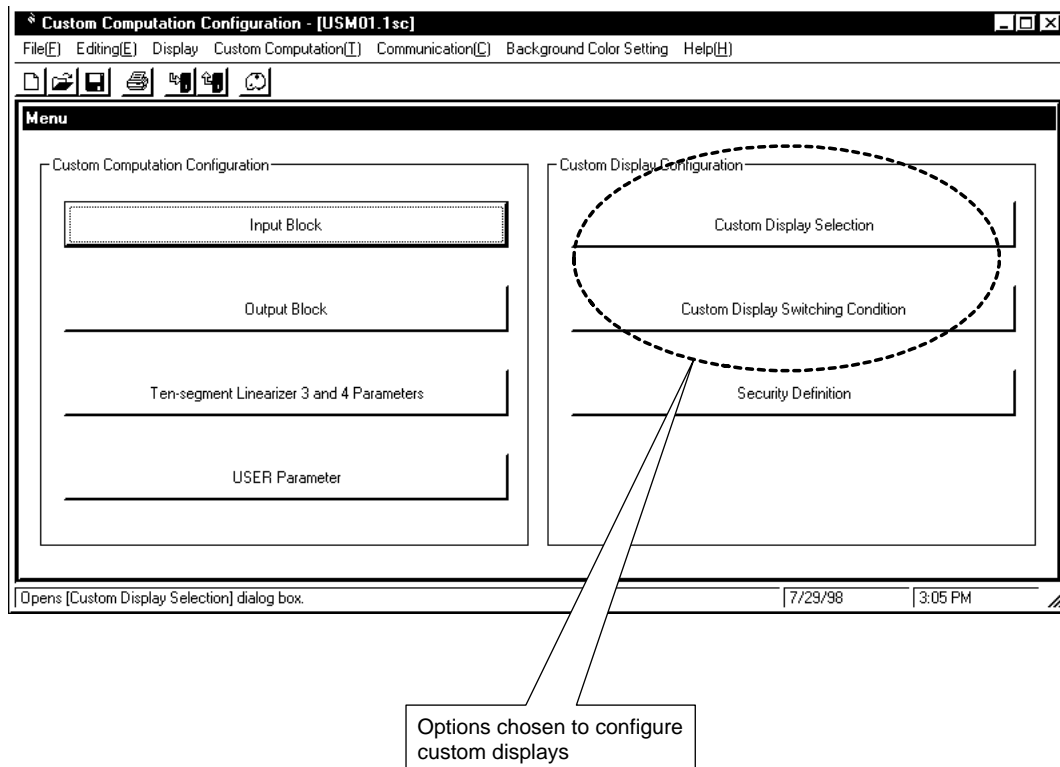

Figure 5.2.2 [Custom Display Configuration Menu] Dialog Box
Figure 5.2.2 shows the [Custom Display Configuration Menu] dialog box used to configure custom displays.
- ① In the [Custom Display Configuration Menu] dialog box (Figure 5.2.2), click the <Custom Display Selection> button. The [Custom Display Selection] dialog box appears. Figure 5.2.5 illustrates the choices of custom displays for single-loop control.
- ① In the [Custom Display Configuration Menu] dialog box (Figure 5.2.2), click the <Custom Display Switching Condition> button. The [Custom Display Switching Condition] dialog box (Figure 5.2.10) appears.
② Double-click the custom display to which you want the controller to switch.
① Click the line stating the condition on which you want the controller to switch to the given custom display.